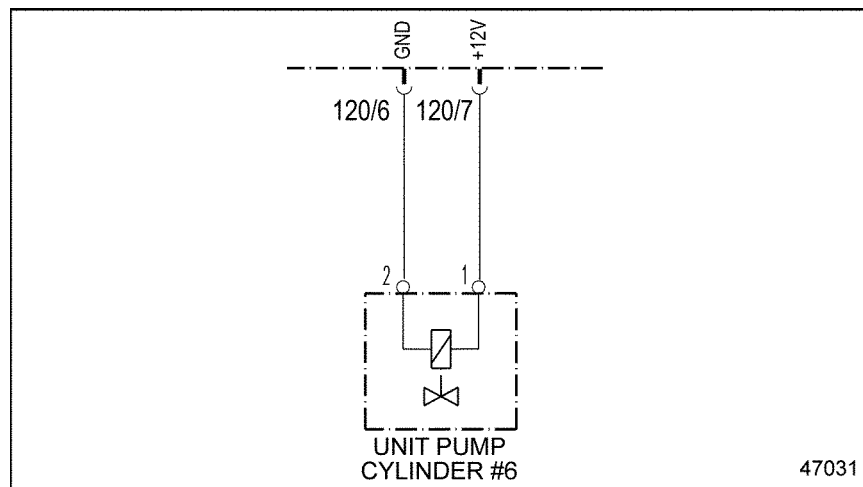

Figure 49-1 Electronic Unit Pump #6
2. Measure the voltage between pins 1 and 2 of Electronic Unit Pump #6. See Figure 49-1.